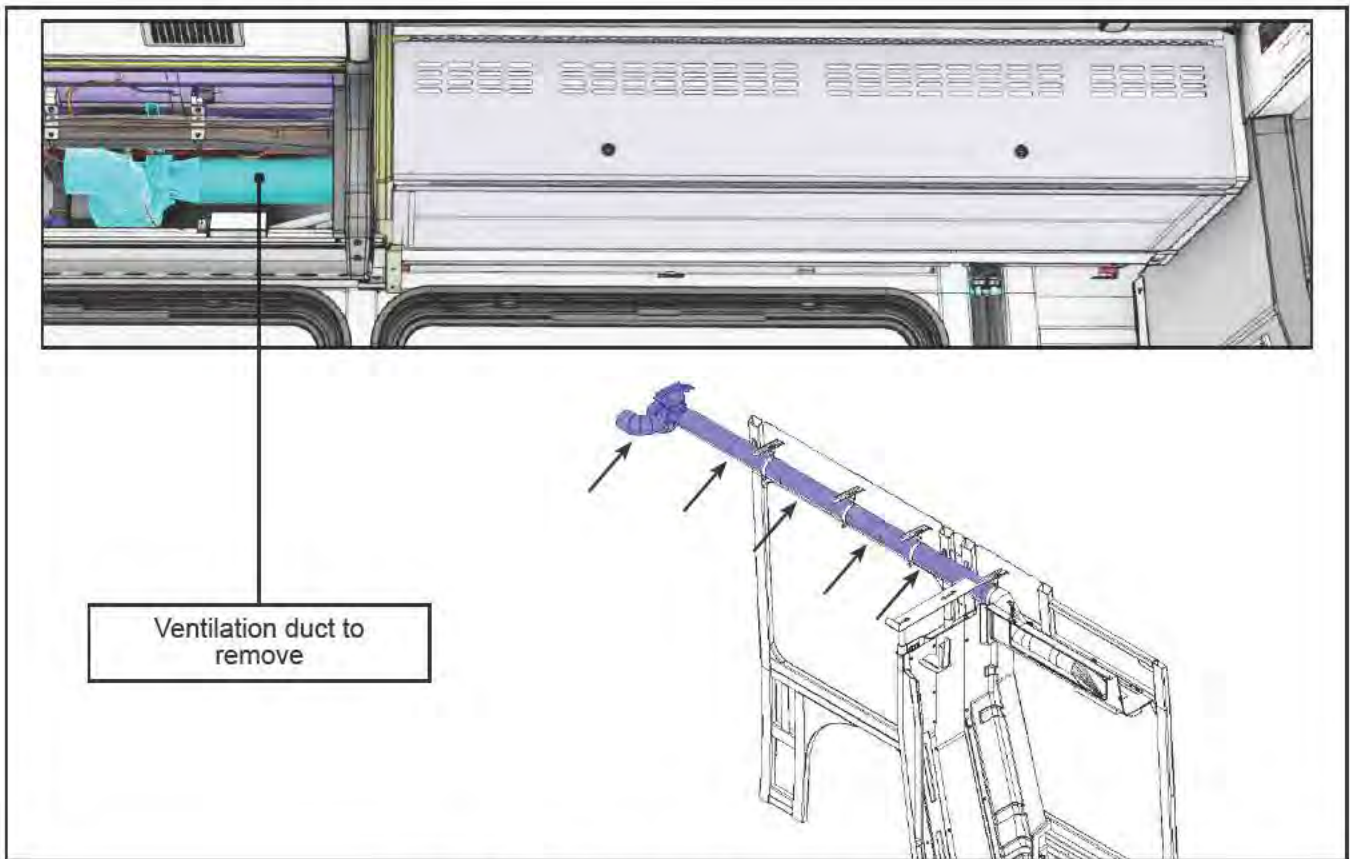

Figure 5 - Ventilation Duct to Remove (Typical)
- 1.16. Remove the ventilation duct (Figure 5).